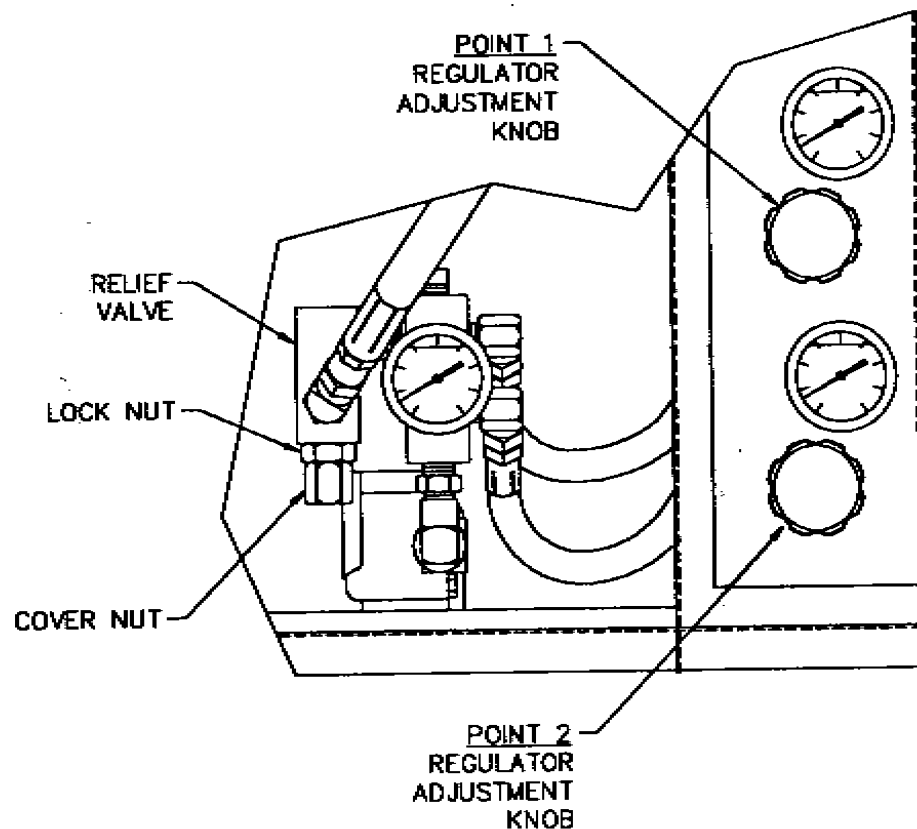

Figure 4-1, Relief Valve Diagram
- L. With ALL nozzles spraying, adjust the system relief valve to approximately 20 PSI above the highest spray point pressure. Refer to Figure 4-1, Relief Valve Diagram.
- C. Adjustment Procedure (Refer to Figure 4-1)
5.4.3 Regulator Adjustment (Refer to Figure 4-1)